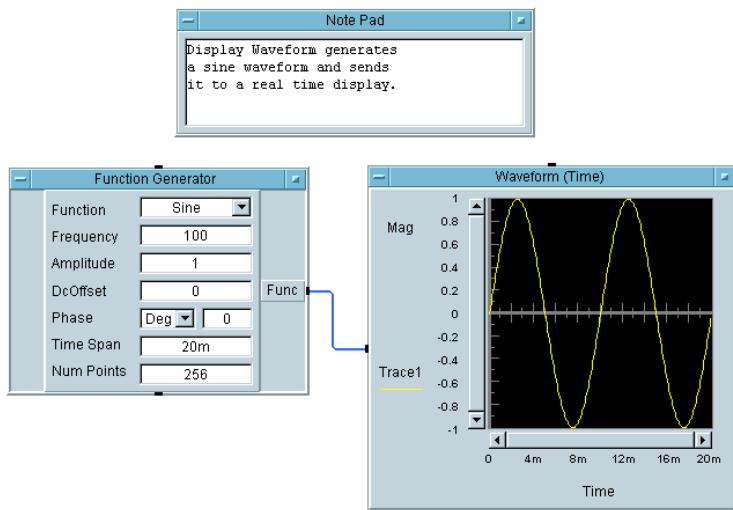

Figure 1-27. Changing the Function Field to Sine Wave
6. Continuing with the same example, click **Cosine** (or the arrow) in the **Function** field. A drop-down list of selections appears. Click **Sine** to select the Sine function as shown in Figure 1-27, noticing that the **Function** field has changed from **Cosine** to **Sine**.